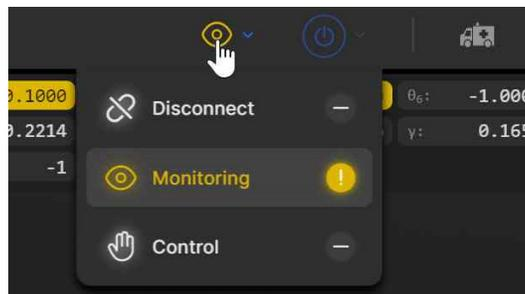

Figure 11: Connection state button
1. Click on the connection state button on the top right of the MecaPortal and select "Control" (see Figure 11).
Normally, once the web user interface is loaded, you have not only established an HTTP connection with the robot, but also activated the socket messaging which is the only communication channel between the web interface and the robot. By default, the web interface connects to the robot in monitoring mode only (as seen in Figure 11). To control the robot click on the ⓘ icon and select 🖱. If the robot is in error when you connect to the robot, the connection state button will show a red blinking ⚠ icon. You can still press that button and select to only monitor or control the robot. The monitoring option can be used to see in real-time the motion of the robot when another client (e.g., another MecaPortal, a Python program, or a Profinet application running on a PLC) is controlling the actual robot.